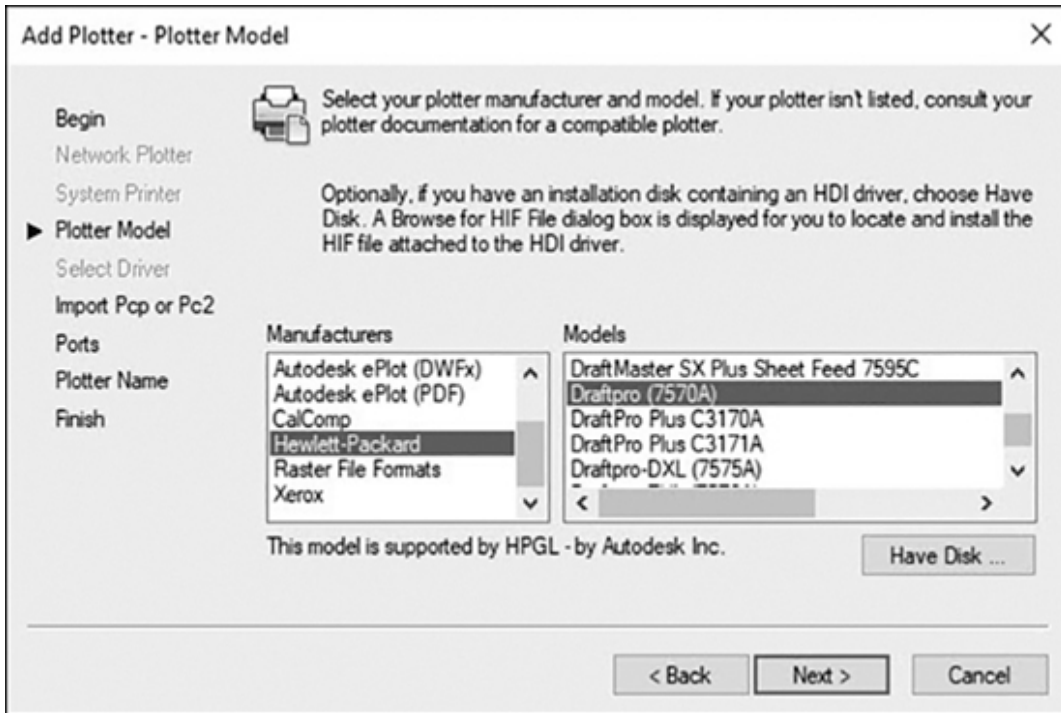

Figure 15-28
- 5** Choose **Hewlett-Packard** in the **Manufacturers** list and **Draftpro (7570A)** in the **Models** list (see Figure 15-28). Choose **Next** to continue to the **Import Pcp or Pc2** step.